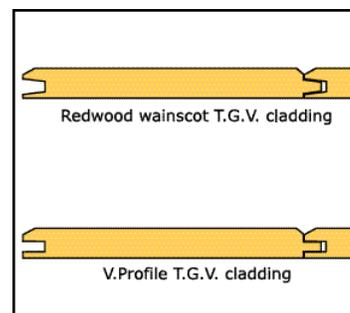

fig. 1
- Redwood Wainscote TGV cladding (**fig. 1**)
- V Profile TGV cladding (**fig. 1**)